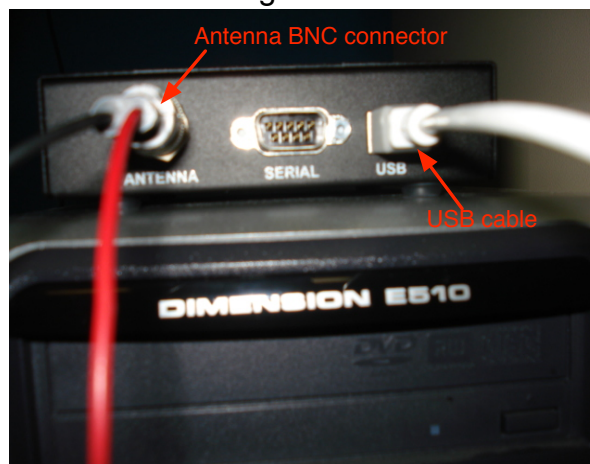

Fig 8. Connect USB and antenna cables to SDR-IQ.
2.8 Connect the mini-USB end of the USB cable to the mini USB port at the back of SDR-IQ as shown in Fig 8 below. Also connect the BNC adapter of the antenna wire to the BNC antenna connector as in Fig 8.
Attach the other end of the antenna wire to a point outside the building, so that the scanner can get clear reception of the signals, else you will get very weak or no signals at all inside buildings. The antenna wire sent to you by Codar should be long enough for this purpose and **will be similar but not exactly like the picture shown in Fig. 8 above.**